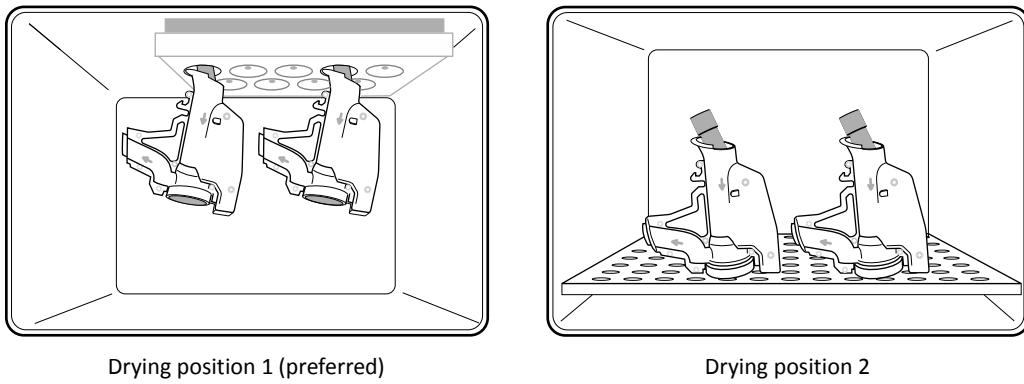

Figure 10-4: Drying position on tube holder
- 5 Submerge in 70% isopropyl alcohol and agitate by hand for one (1) minute.
- 8 Dry at a minimum of 45°C for a minimum of eight (8) hours, or dry at a minimum of 60°C for two (2) hours on a tube holder in a sterile dryer. See Figure 10-4 below.